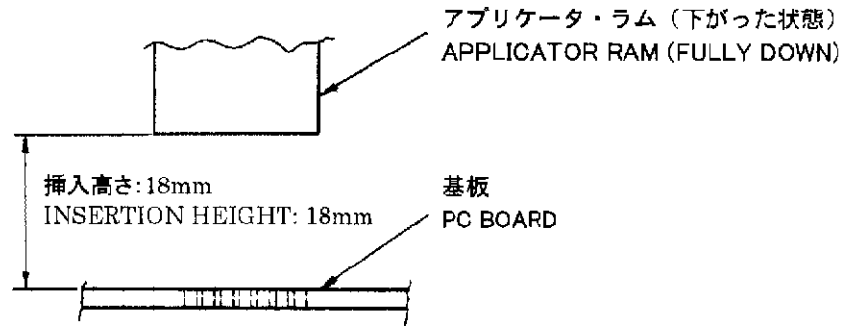

Fig.2
(Fig.2)
- (1) Set insertion height of Applicator Ram. (Fig.2)